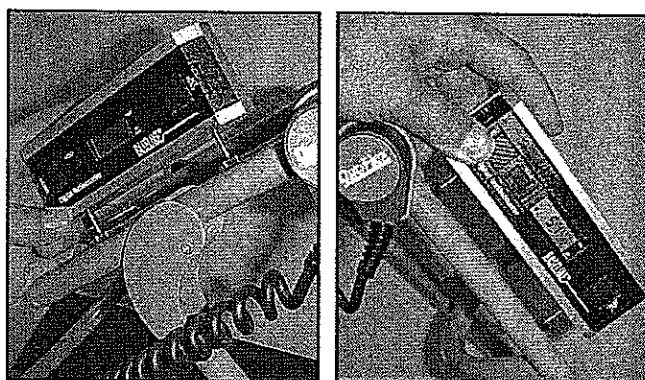

FIGURE 5.8
10. Using the Inclinator or Protractor, measure the angle of the flexion of the unit. See Figure 5.8.
In Figure 5.8, a Digital Inclinator is used to measure each side and the two numbers are added together.